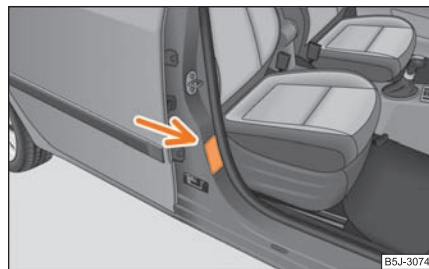

Fig. 159 Sticker on the centre column of the body on the front passenger side.
- This is also clearly stated on the sticker which is located on the centre column of the body on the front passenger side ⇒ **fig. 159**. The sticker is visible upon opening the front passenger door. For some countries, the sticker is also affixed to the sun visor of the front passenger.